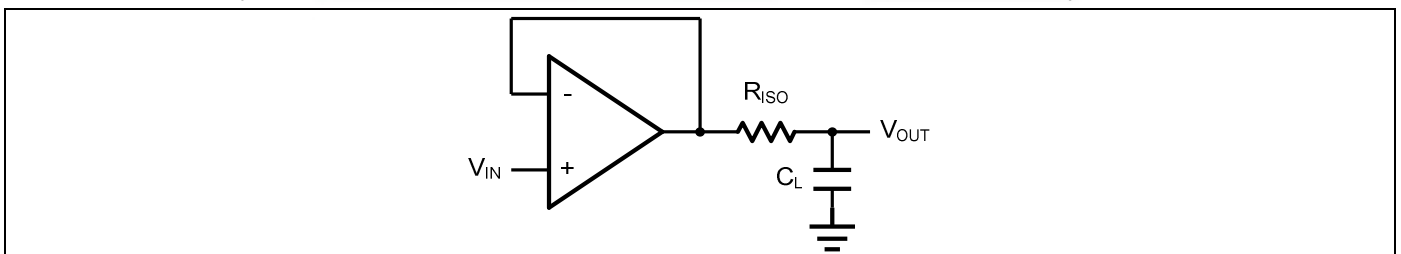
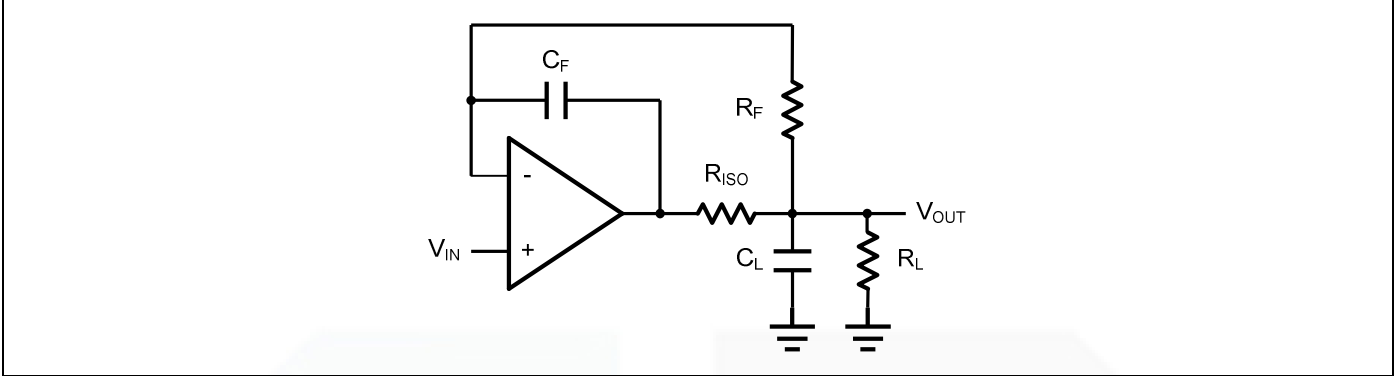

Figure 2. Indirectly Driving a Capacitive Load Using Isolation Resistor
Figure 3. Indirectly Driving a Capacitive Load with DC Accuracy
The GS872X family is optimized for bandwidth and speed, not for driving capacitive loads. Output capacitance will create a pole in the amplifier's feedback path, leading to excessive peaking and potential oscillation. If dealing with load capacitance is a requirement of the application, the two strategies to consider are (1) using a small resistor in series with the amplifier's output and the load capacitance and (2) reducing the bandwidth of the amplifier's feedback loop by increasing the overall noise gain. Figure 2. shows a unity gain follower using the series resistor strategy. The resistor isolates the output from the capacitance and, more importantly, creates a zero in the feedback path that compensates for the pole created by the output capacitance.
The circuit in Figure 3 is an improvement to the one in Figure 2.  $R_{\text{F}}$  provides the DC accuracy by feed-forward the  $V_{\text{IN}}$  to  $R_{\text{L}}$ .  $C_{\text{F}}$